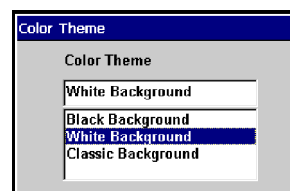

Figure 5-89 Sample Color Theme dialog box
2. Press **Y/✓** to open the drop-down list (Figure 5-89).